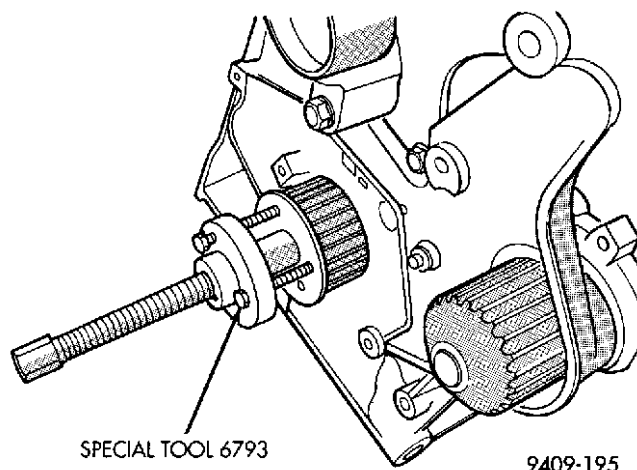

Fig. 57 Crankshaft Sprocket—Removal
(2) Remove outer timing belt cover and timing belt. Refer to Timing Belt System outlined in this section.
(3) Remove crankshaft sprocket using Special Tool 6793 and insert C- 4685-C2 (Fig. 57).